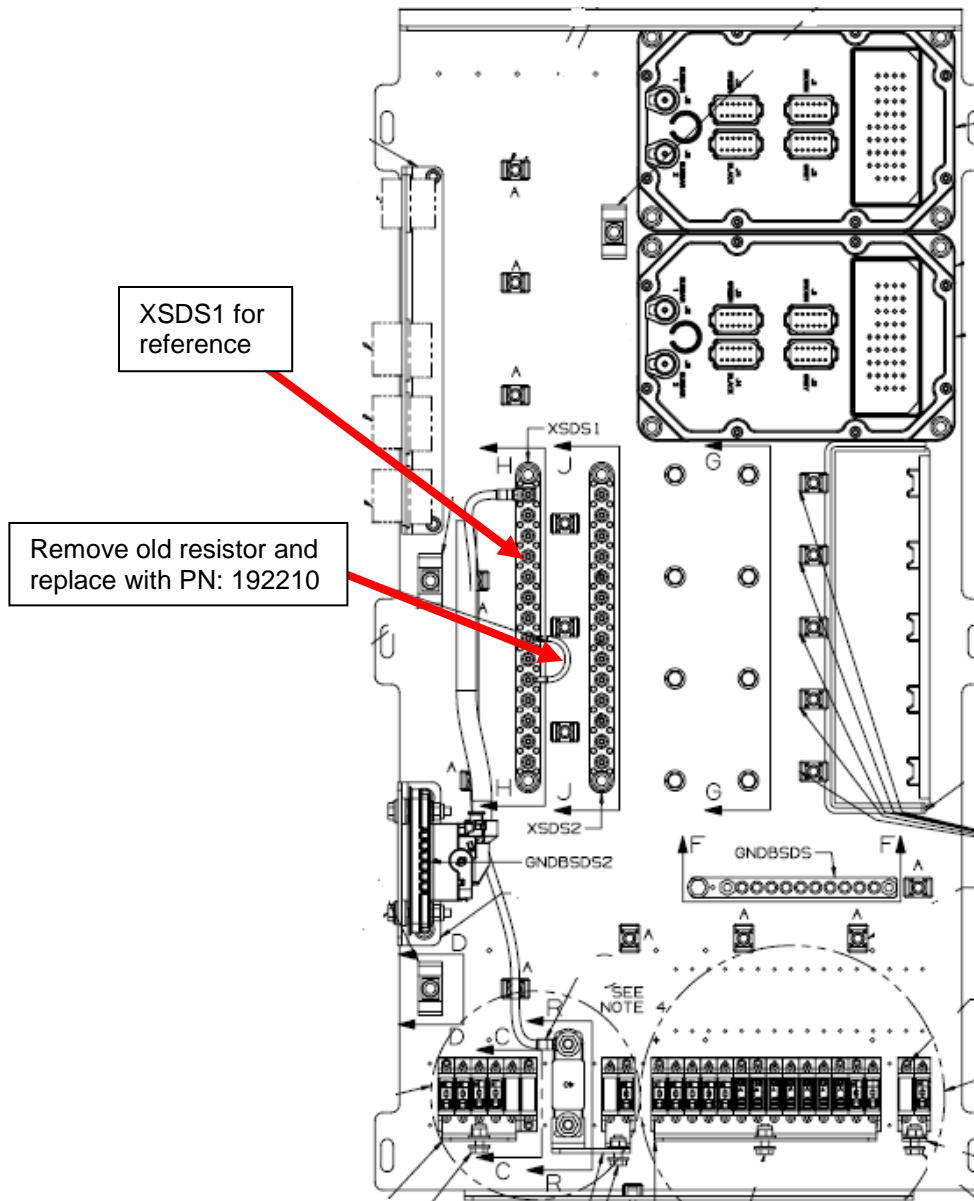

Figure 1: Rear facing side of SDS compartment.
3. Remove and replace pull down resistor with PN: (192210) and torque resistor connection on terminal block at XSDS1-8 and XSDS1-10 to 10.6 in-lbs as indicated in figure 1.